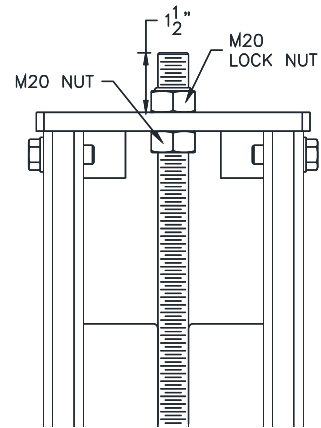

Fig 15 – Lock Ladder Assembly
- 23) Adjust the lock ladder so about 1 1/2" remains sticking out of the top. Tighten both bolts as shown in **Fig 15** when ladder is properly orientated. Note: When adjusting the lock ladder it may be necessary to loosen or remove the bolts holding the top cap to the column so the bottom nut can be adjusted.